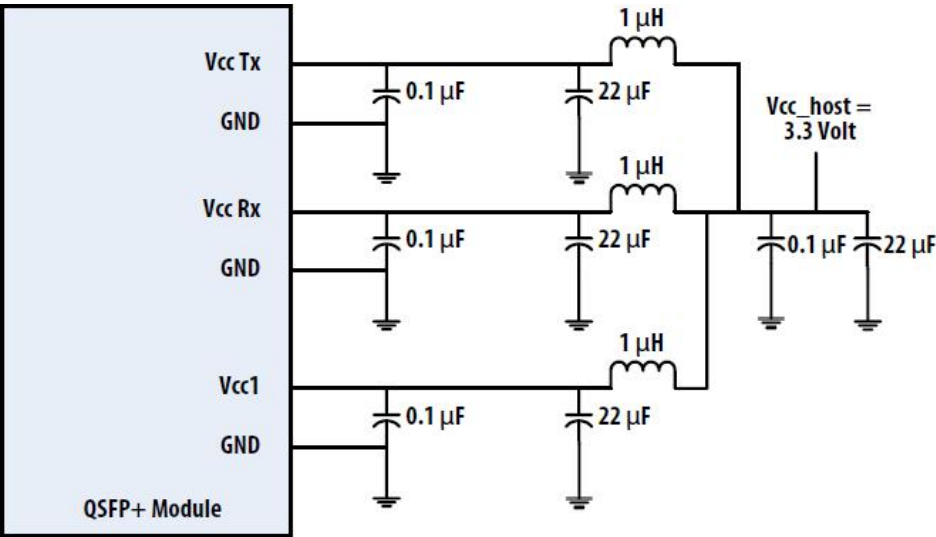

Figure 4 – Recommended Power Supply Filter
6. Receiver sensitivity (OMA_{outer}) (max) is informative and is defined for a transmitter with a value of SECQ up to 3.4 dB. It should meet Equation (1), which is illustrated in Figure 4.